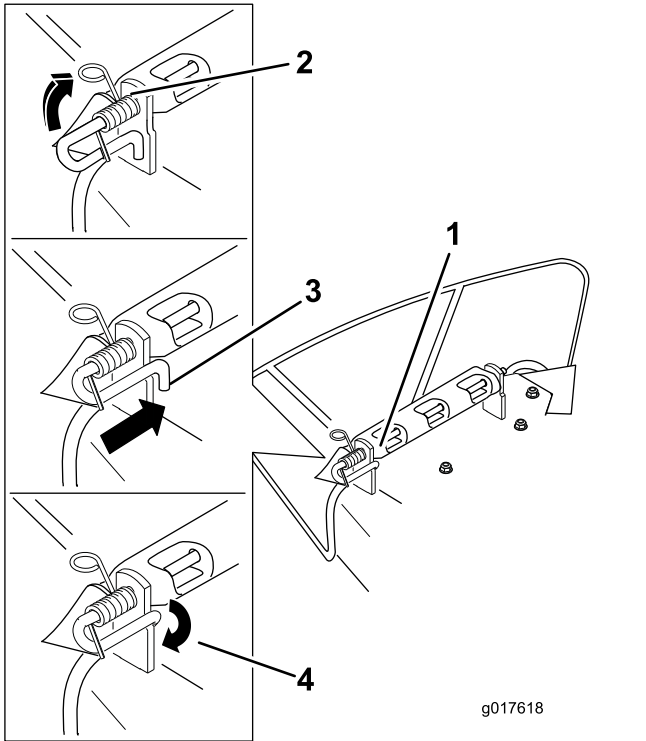

Figure 66
3. Position the new discharge deflector with the bracket ends between the welded brackets on the deck as shown in Figure 66.
5. Position the spring on the rod as shown in Figure 66 so that the shorter spring end comes from under the rod before the bend and going over the rod as it returns from the bend.
6. Lift the loop end of the spring and place it into the notch on the deflector bracket (Figure 66).
7. Secure the rod and spring assembly by twisting it so that the short end of the rod is behind the front bracket welded to the deck (Figure 66).